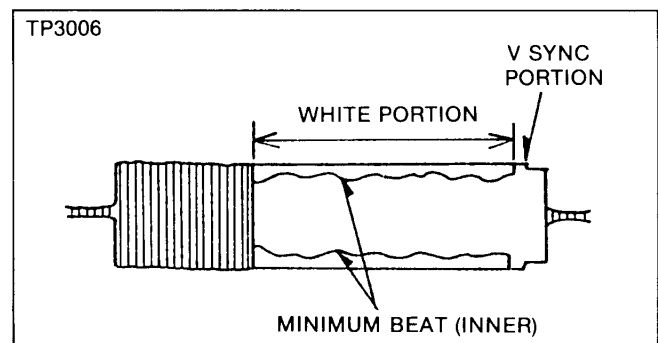

Figure E12
5. Adjust VR8004 so that the inner beat at the white portion of the colour bar becomes minimum as possible as shown in Figure E12.